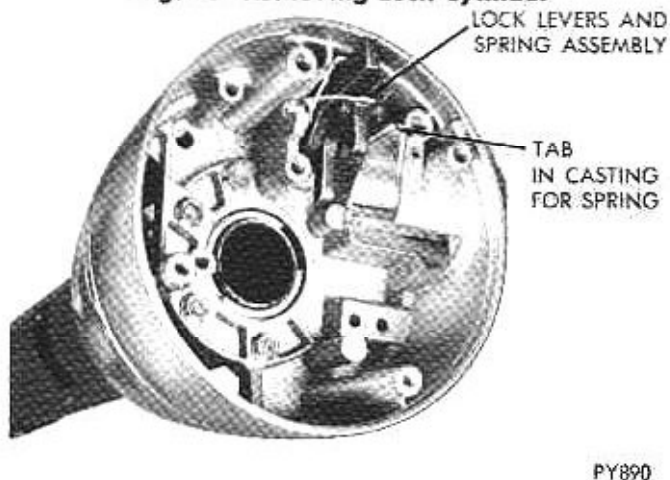

Fig. 13—Lock Levers and Spring Assembly Installed in Housing
- (6) Grasp lock lever and spring assembly and pull straight out of housing (Fig. 13).
- (7) Remove four lock housing to column jacket hex
(8) Install the resulting assembly in the lock housing. Seat the pin firmly into the bottom of the slots. Make sure that the lock lever spring leg is firmly in place in lock casting notch (Fig. 13).
(9) Install the lock lever guide plate and retaining